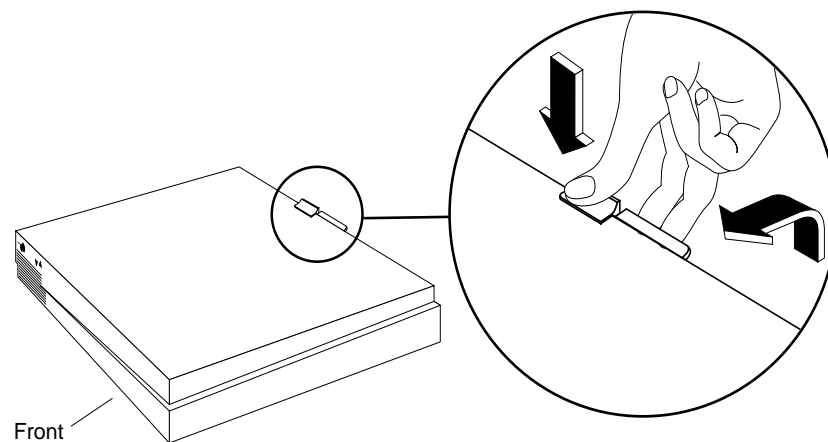

Figure 3-10 Removing the Top Cover From the Challenge S Server
3. Facing the front of the Challenge S server, place your right thumb on the small channel at the back of the cover, and your second and third fingers under the finger ledge, as shown in Figure 3-10.